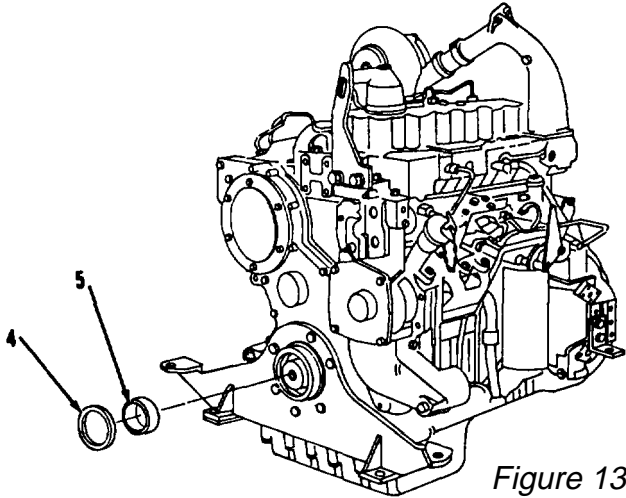
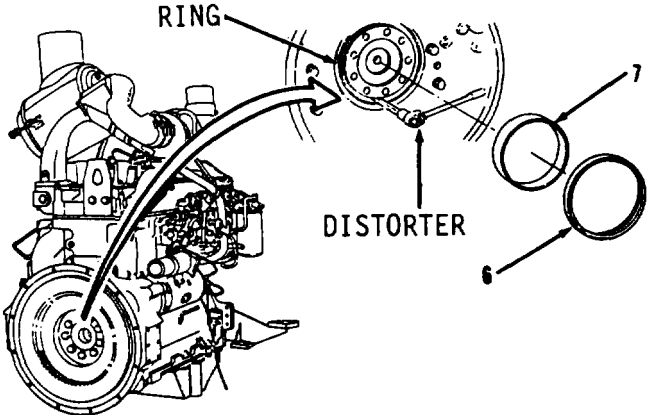

Figure 13-56.
Figure 13-57.
1. Using puller assembly, remove seal (4, Figure 13-56) from front of crankshaft.
2. Install ring into seal (4) bore in trunnion.
3. Insert distorter between wear sleeve (5) and ring.
4. Turn until distorter creases wear sleeve (5). Do this in two or more places until wear sleeve (5) is loose.
5. Remove distorter and wear sleeve (5) by hand.
6. Remove rear seal (6) and wear sleeve (7, Figure 13-57) from rear-flange on crankshaft. Repeat steps 5 thru 9.